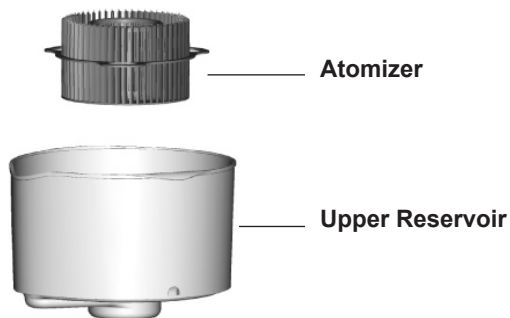

Figure 15
- Remove the Atomizer and the Upper Reservoir. See Figure 15.